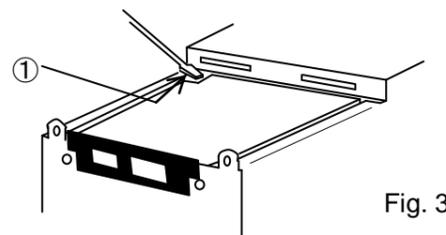

Fig. 3
- (1) Make sure that the AC cable is disconnected.
- (2) Detach the cover, remove the optional board set screws from the rear panel, and make the condition shown in Fig. 3.
- (3) Insert a flathead screwdriver into ① shown in Fig. 3 and press up the optional board.